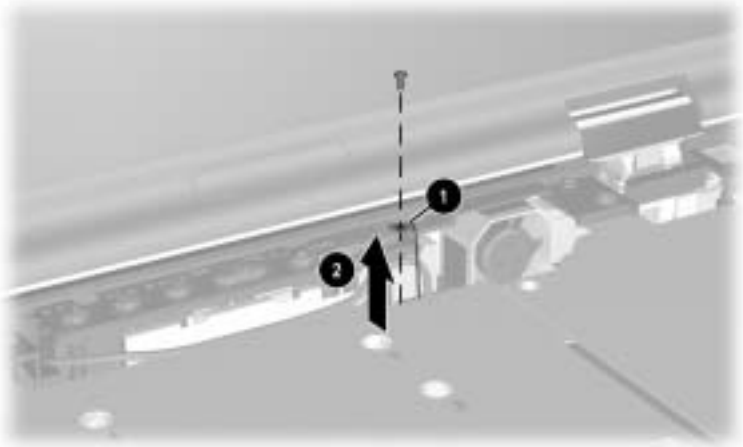

Figure 5-21. Removing the Display Video Cable Ground Cable
5. Remove the TM2.5 × 5.0 screw ❶ that secures the display video cable ground loop (Figure 5-21).
6. Remove the display video cable ❷ from the routing channel in the heat spreader.